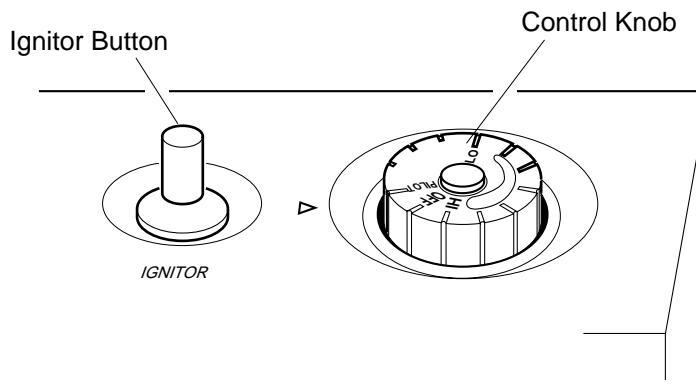

Figure 23 - Control Knob In The OFF Position
4. Wait five (5) minutes to clear out any gas. Then smell for gas, including near the floor. If you smell gas, STOP! Follow “B” in the safety information at the top of page 21. If you don’t smell gas, go to the next step.
5. Turn control knob counterclockwise  to the PILOT position. Press in control knob for five (5) seconds (see Figure 23, page 21).